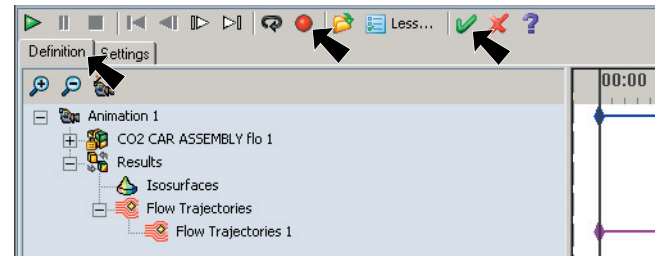

Fig. 37
Step 3. Click the **Definition** tab in animation control panel to switch back, **Fig. 37**.
Step 5. To exit, click **OK**  in animation control panel, **Fig. 37**.